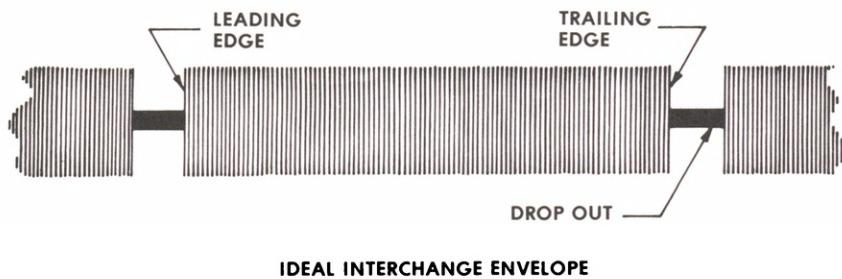

Figure 6-10. Ideal Interchange RF Envelope
4. Adjusting the tape guide on the back of the drum to obtain a flat envelope as shown in Figure 6-10 (adjustment 4).